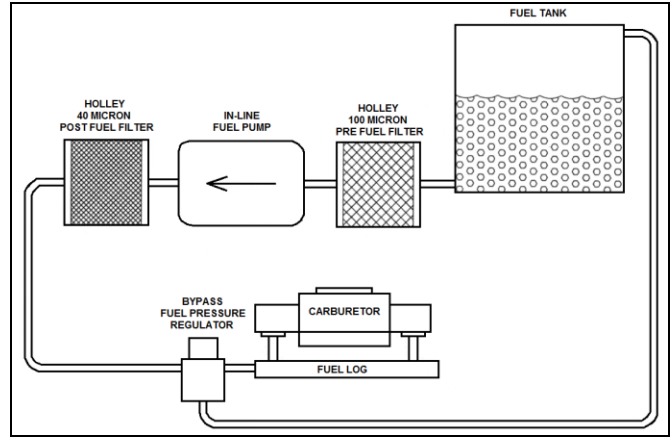

Figure 2
3. The 12-803BP bypass regulator has one bypass or return port. This port (labeled "RET") must be connected to the fuel tank with a fuel line the same size as the supply line (3/8" I.D. is recommended). See Figures 2 & 3.
5. Connect the other line per Figure 2 or 3.
**WARNING! TURNING THE ADJUSTMENT SCREW ALL THE WAY IN WILL RESULT IN EXCESSIVE FUEL PRESSURE AND CAUSE THE CARBURETOR TO FLOOD. A FLOODED CARBURETOR CAN CAUSE A FIRE AND/OR EXPLOSION RESULTING IN PROPERTY DAMAGE, SERIOUS INJURY, AND/OR DEATH. ALWAYS USE A FUEL PRESSURE GAUGE BETWEEN THE REGULATOR AND THE CARBURETOR(S) WHEN ADJUSTING THE FUEL PRESSURE REGULATOR.**